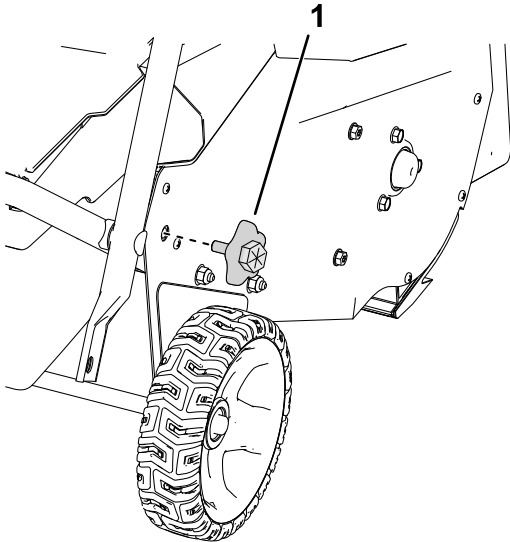

Figure 4
4. Remove the lower handle knobs from both sides of the machine (Figure 4).